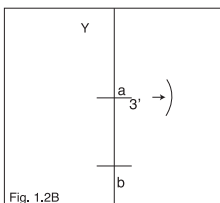

Fig. 1.2B
B) From center point (a) measure 75mm in general direction of where line X will be and scribe an arc (Fig. 1.2B).